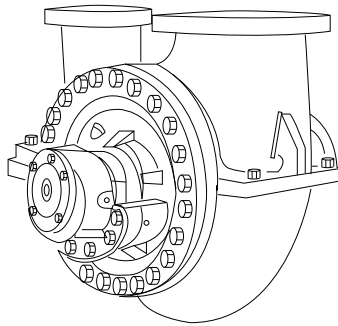

FIGURE 30. Radially Split Casing
- The term *vertically split* refers to a casing split in a plane perpendicular to the axis of rotation (Figure 30). The term *radially split* is now preferred.